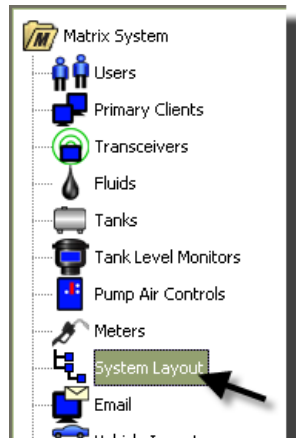

FIG. 136
1. To display the main System Layout setup screen, select **System Layout** from the list on the Matrix System Panel (FIG. 136). Before you setup the System Layout you must first add tanks (page 84) and meters (page 97).